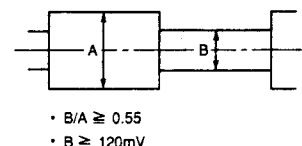

Fig. 7-3-10 Envelope output and output difference
2. In playback the tape (with a E-180), the video envelope should meet the specification as shown in Fig. 7-3-10.